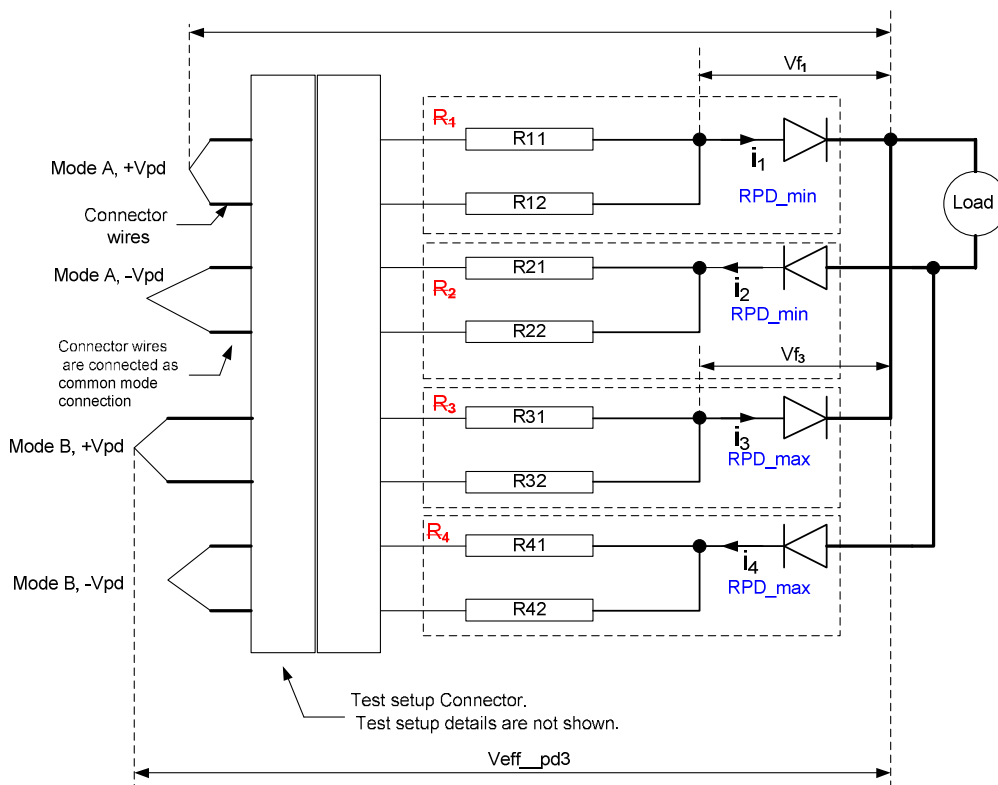

Figure 145X-1—PD resistance unbalance elements overview
This section describes unbalance requirements for PDs that operate over 4-pair. The contribution of PD PI pair-to-pair effective resistance unbalance to the effective system end to end resistance unbalance, is determined by PD maximum (~~R_{Pair_PD_max}~~R_{PD_max}) and minimum (~~R_{Pair_PD_min}~~R_{PD_min}) common mode effective resistance in the powered pairs of same polarity. ~~See Figure 33A-2~~ See Figure 145X-1.
Figure 145X-1 illustrates the relationship between R_{PD_max} and R_{PD_min} effective resistances at the PD PI as specified by Equation 145-31 and the rest of the end to end pair to pair effective resistance components.
*-Approved Changes in Figure 145X-1 from D2.2 to D2.3 are marked with **RED** color.*
*-New Changes in Figure 145X-1 from D2.3 to next draft are marked with **BLUE** color.*
Common mode effective resistance is the resistance of two conductors of the same pair and their other components connected in parallel including the effect of PD pair-to-pair voltage difference of pairs with the same polarity (e.g. Vf1-Vf3). The common mode effective resistance R_n is the measured voltage $V_{eff_pd_n}$, divided by the current through the path as described below and as shown in the example in Figure 145X-1, where n is the pair number.